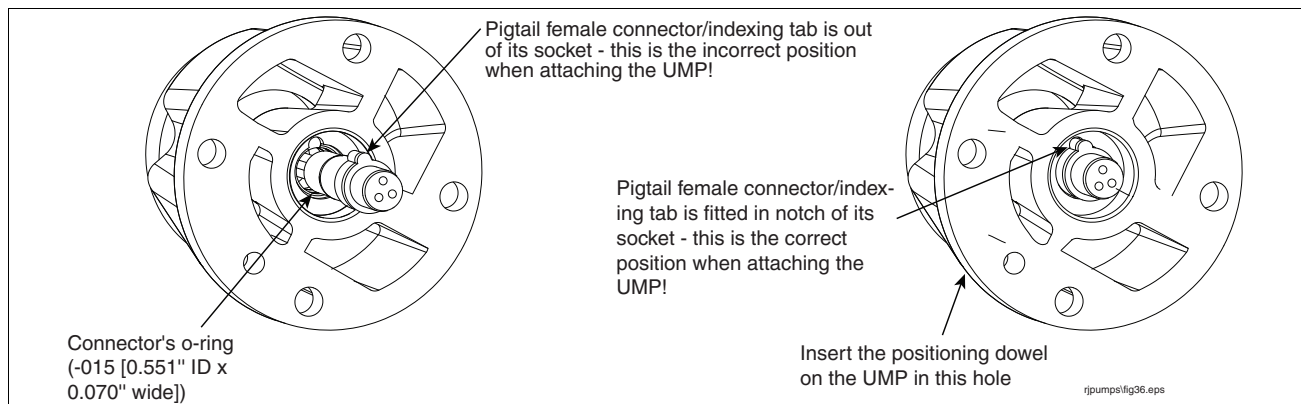

Figure 24. Verifying Pigtail's Female Connector Is Seated Properly
6. Pull the pigtail connector in the discharge head out far enough to see the o-ring in the sidewall of its socket (see Figure 24). Remove the connector's o-ring from the connector's socket and discard it. Get a 0.551" ID x 0.070" wide o-ring from the kit and lubricate it with petroleum jelly. Slide the new o-ring over the pigtail connector and push it in the groove in the wall of the connector's socket. Lubricate the pigtail connector body with petroleum jelly and push it back into its socket, making sure its index tab is in the socket's notch.
7. Align the UMP positioning dowel so it inserts in the proper hole in the discharge head (see Figure 24) and push the UMP into position using hand force only. The UMP should be snug against the discharge head prior to installing the UMP retaining bolts.
10. Push the pigtail wires into the connector's socket until they exit into the packer's wiring compartment. At the discharge (connector) end of the pigtail, rub some petroleum jelly over the connector's outside surface and push it into its socket in the discharge head. Take care to align the connector index tab with the notch in the socket as shown in the drawing on the right in Figure 24 on page 25.
11. Align the UMP positioning dowel so it inserts in the proper hole in the discharge head (see Figure 24) and push the UMP into position using hand force only. The UMP should be snug against the discharge head prior to installing the UMP retaining bolts.